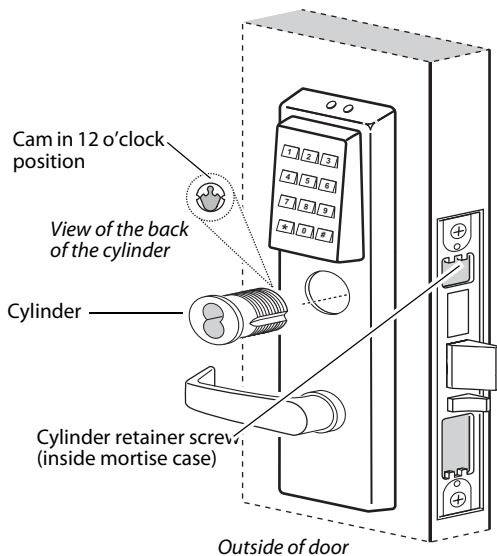

Figure 15 Installing the Keypad EZ Lock cylinder
- 1 Rotate the cylinder cam to the 12 o'clock position as shown in Figure 15.
- 2 Use a cylinder wrench to thread the cylinder into the mortise case. See Figure 15.